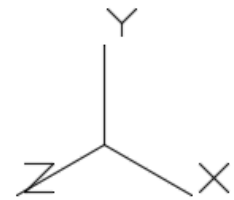

Figure Step 5
Step 5 Change the UCS location to Front. (Figure Step 5)